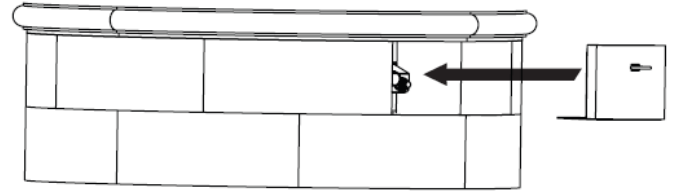

Figure 17 - Access Door
13. Insert access door into hole as shown in Figure 17.